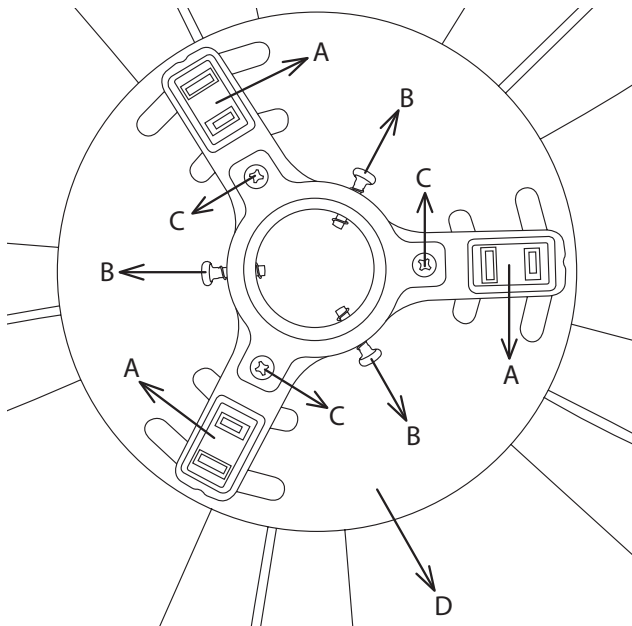
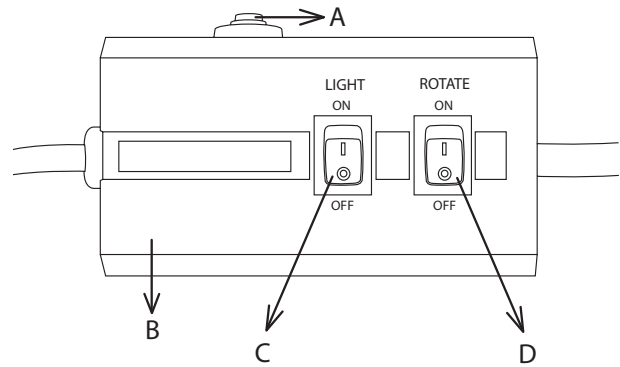

Figure 7
Figure 8
2. Before assembling and decorating your tree, check to make sure that the tree stand works properly by plugging a light set into one of the three electrical receptacles located on the spindle (Fig. 7). Flip the LIGHT and ROTATE switches located on the control box to the ON position (Fig. 8). The lights should light up and the spindle should start rotating. Flipping the LIGHT and ROTATE switches to the OFF position should likewise turn off these respective functions.